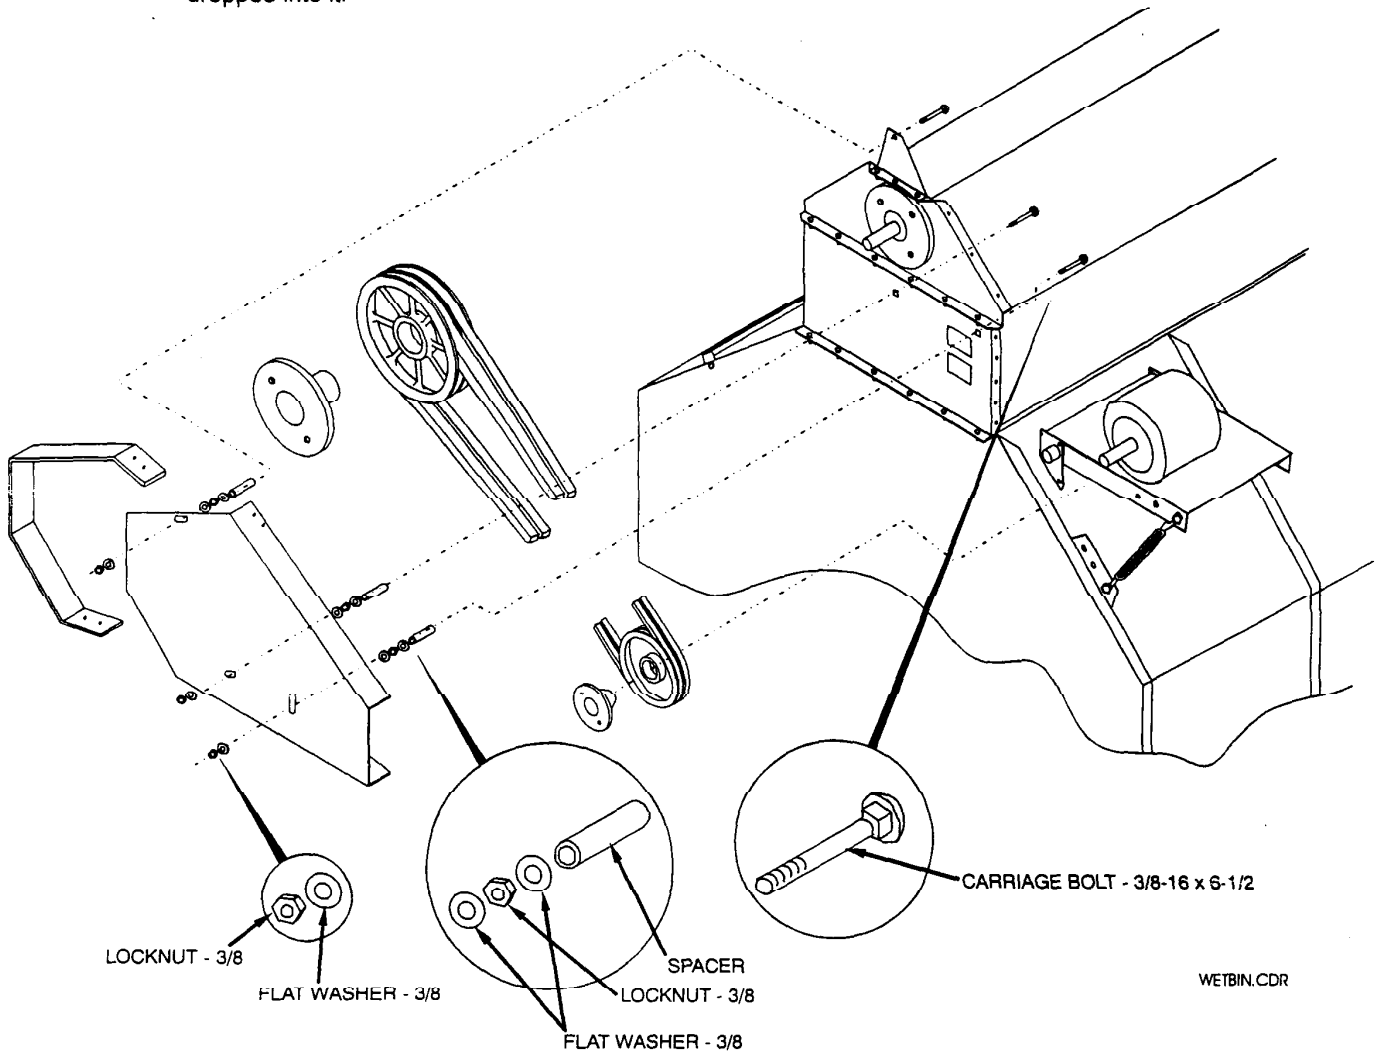
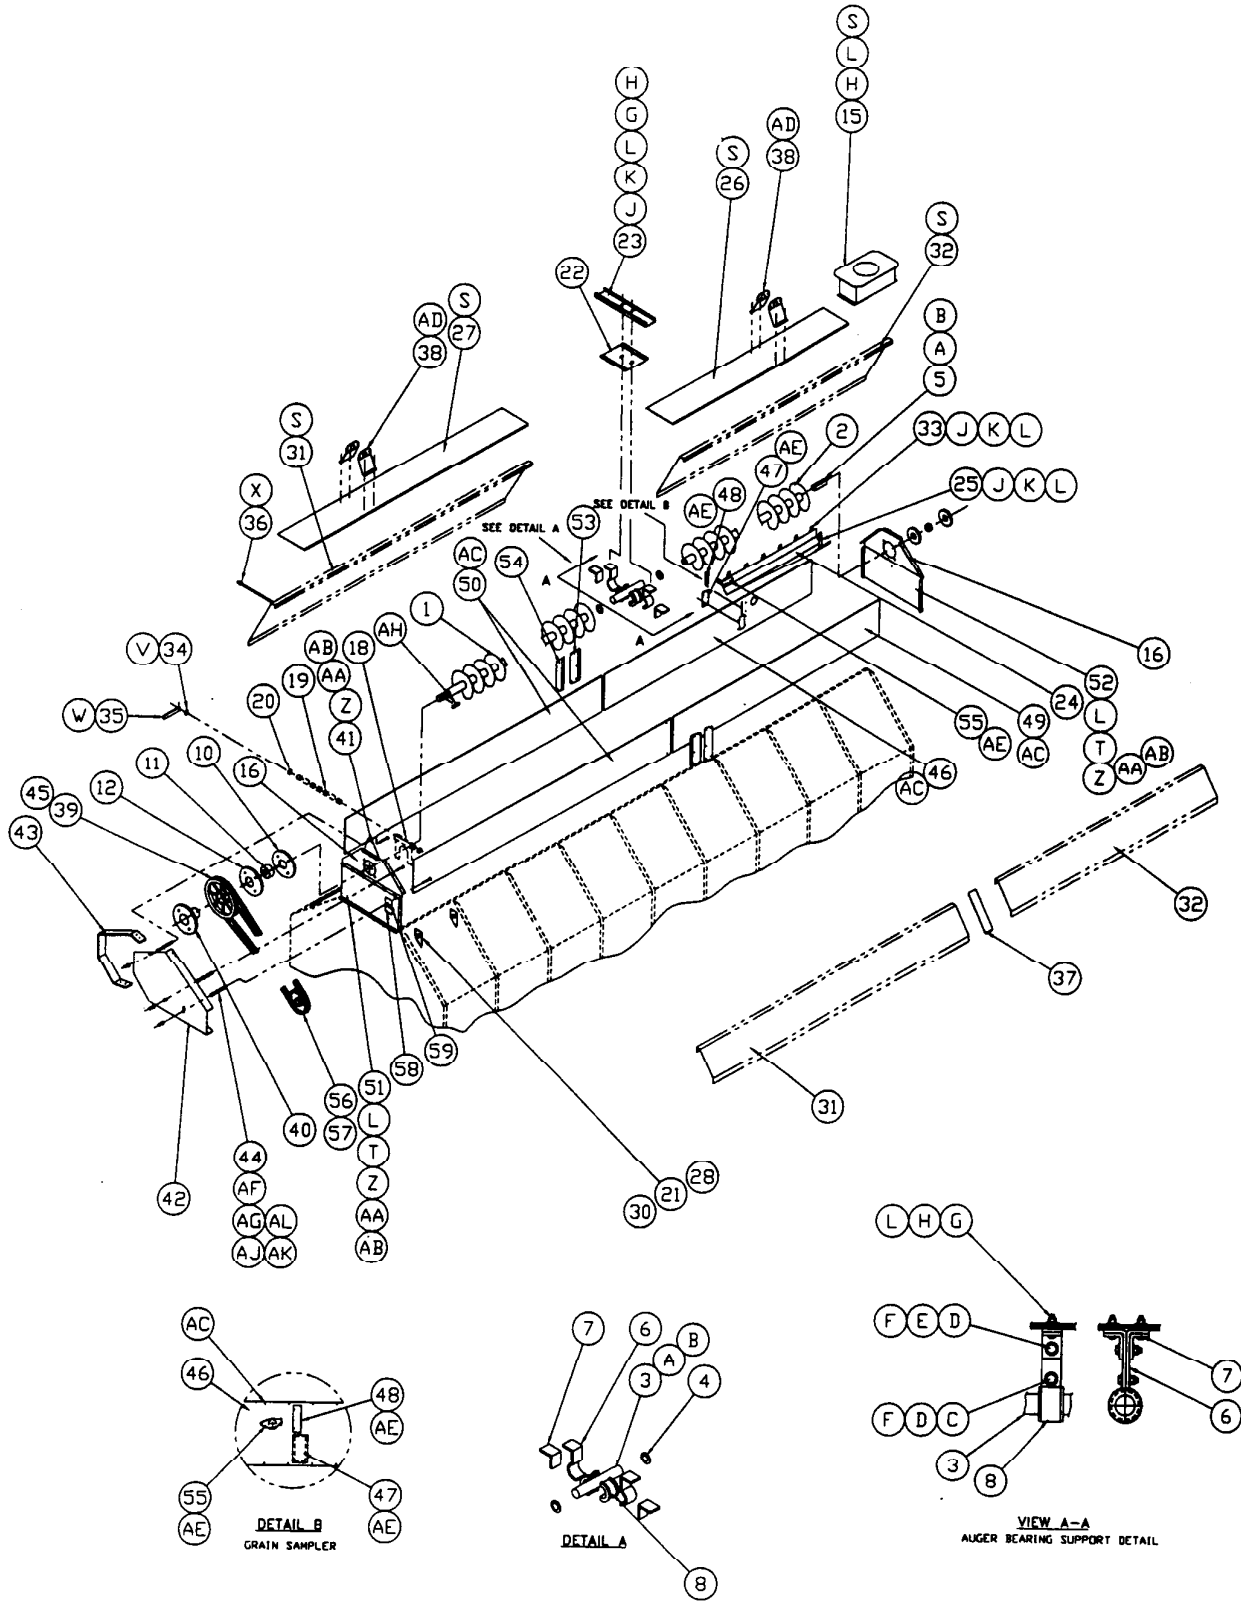

FIG. 1 SHEAVE and BELT GUARD ASSEMBLY
FIG. 3 CF/AB-400 CWB ASSEMBLY, page 1 of 2
Figures 1 and 2 show installation tips, basic parts callout, and other general information. For more specific part identification, refer to Figs. 3 to 6, which are matched to particular model dryers. Note that parts lists in Figs. 3 to 6 are divided in two sections, with preassembled parts on the left and field-assembled parts on the right.
3. Install end extension panels using 5/16-18 x 1" bolts (item Z), hex nuts (item AA), and 5/16 flatwashers (item AB). Beveled edge of side flanges should be on top as shown in Fig. 3 detail "B". Front panel (opposite fill end) has (2) square holes for attaching belt guard. Attach only top edge of end panels at this point.
4. Assemble (3) long carriage bolts, spacers, nuts, and washers into end panel and spacer mounting bracket as shown in Fig. 1 for later attachment to the belt guard.
Focus Sensor Equipment: The right-hand side panel has mounting locations 36" from the fill end for a Focus moisture sensor, sensor guard, and grain sample gate. If Focus control is not to be installed on dryer, install cover plates as shown in Figs. 3 to 6, detail B.
10. Install drive sheaves, belts, and shield. See Fig. 1 and appropriate assembly drawing.